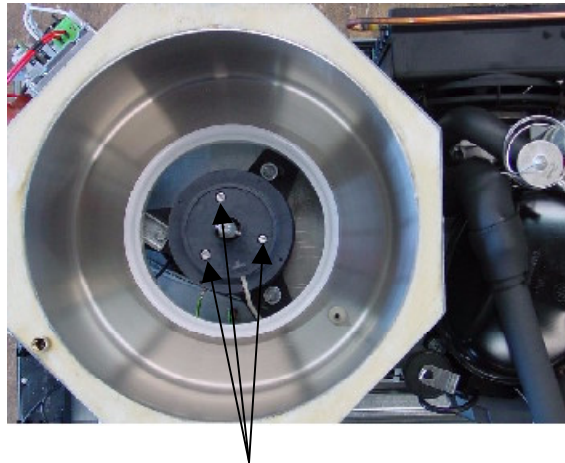

figure 25
- Remove the screws from the rotor fixing brackets (figure 25).